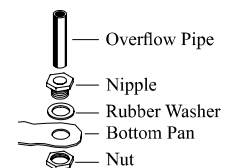

Fig. 6
- **Install overflow assembly.** Place drain nipple through the hole in the pan, with the rubber washer between the pan and the head of the drain nipple (Fig. 6). Screw on nut and draw up tight against bottom of pan. Insert the overflow pipe in the nipple to retain water. The overflow pipe may be removed to drain the pan when necessary. A garden hose may be screwed on the drain nipple to drain water away from your unit.